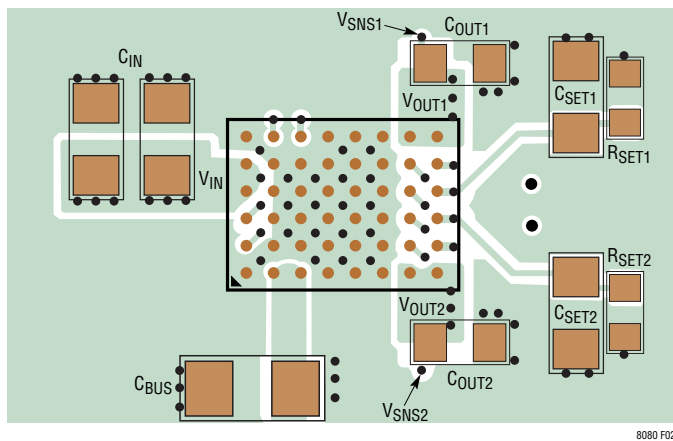

Figure 2. Layout Showing Suggested External Components, GND Plane and Thermal Vias
Most of the headaches associated with PCB layout have been alleviated or even eliminated by the high level of integration of the LTM8080. The LTM8080 is, nevertheless, a switching power supply, and care must be taken to minimize EMI and ensure proper operation. Even with a high level of integration, you may fail to achieve specified operations with a haphazard or poor layout. See Figure 2 for a suggested layout. Ensure that the grounding and heat sinking are acceptable.
6. Use vias to connect the GND copper area to the board's internal ground planes. Liberally distribute these GND vias to provide both a good ground connection and thermal path to the internal planes of the printed circuit board. Pay attention to the location and density of the thermal vias as shown in Figure 2. The LTM8080 can benefit from the heat sinking afforded by vias that connect to internal GND planes at these locations due to their proximity to internal power handling components. The optimum number of thermal vias depends upon the printed circuit board design. For example, a board might use tiny holes. Therefore, it should employ more thermal vias than a board that uses larger holes.